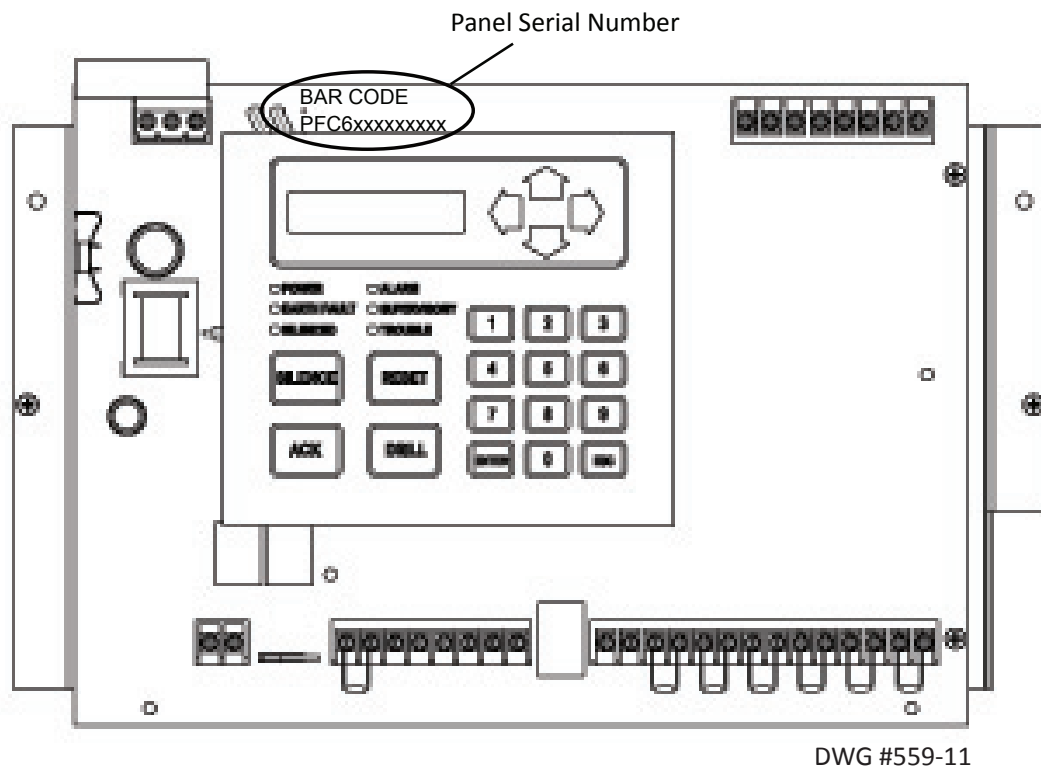
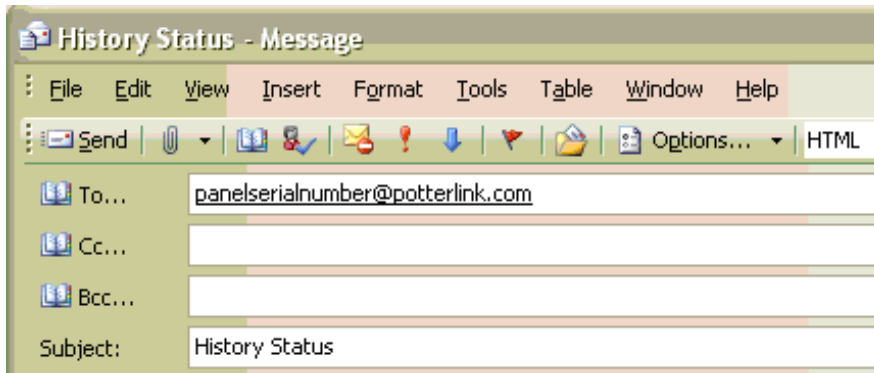

Figure 54. Panel Serial Number Location
Figure 58. Example of Keywords in E-mail Subject Field
2. In the To field, enter the panel's e-mail address as shown in Figure 58. (Refer also to 87"Figure 54. Panel Serial Number Location" on page 87.)